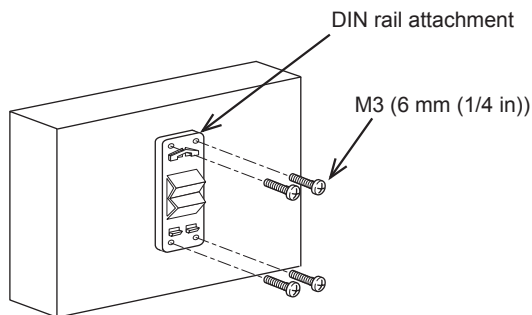

Fig. 7-4
2. Attach the supplied DIN rail attachment to the AHC ADAPTER with the supplied M3 screws. (Fig. 7-4)